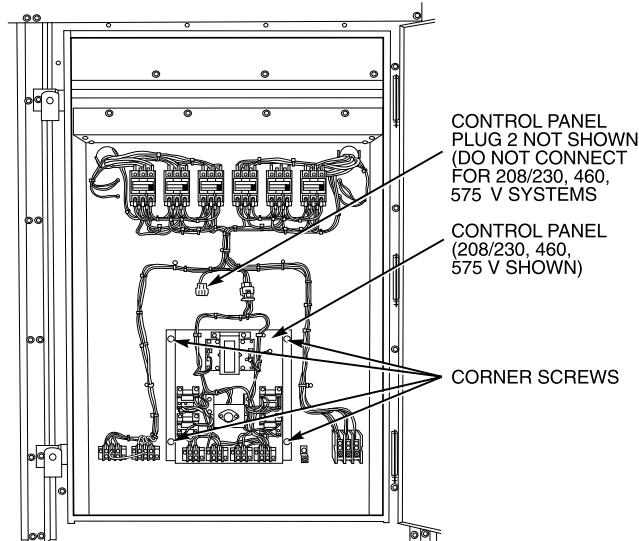

Fig. 1 — Accessory Fan Control Kit
Three FCPSs (Fan Cycle Pressure Switches) are used on units with 67/33% and four FCPSs are used on units with 33/33/33% and 33/33/17/17% capacity split applications. The kit includes a control panel (Fig. 1), valve cores and bodies, pressure switches, and fastener hardware for installation. See Table 2 for kit contents.
4. Mount control panel in control box using the 4 screws provided at the location shown in Fig. 1.